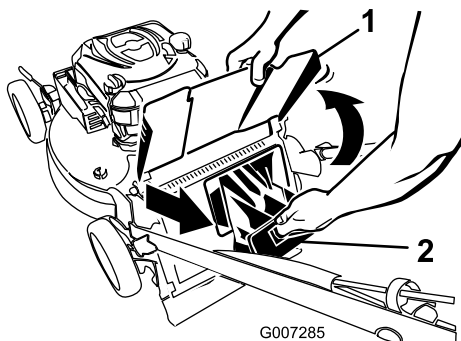

Figure 30
2. Raise and hold up the discharge deflector (Figure 30).
3. Pull out the rear discharge plug (Figure 30).